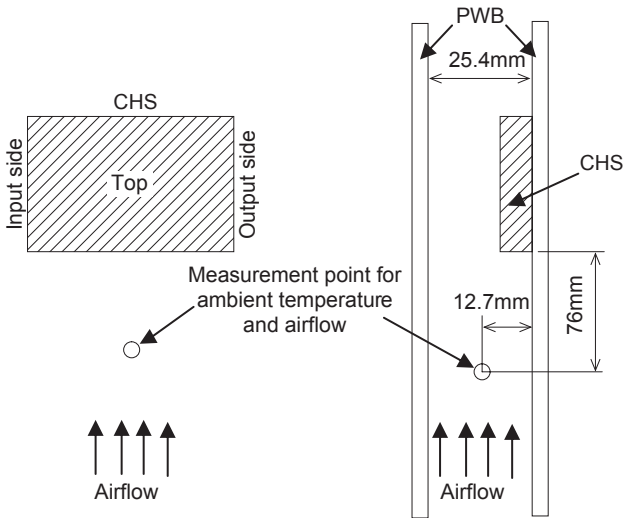

Fig.8.3 Measuring method
■ Shown the thermal curve with measuring as shown in Fig.8.3. Verify final design by actual temperature measurement. Use the temperature measurement location as shown in Fig.8.2.1 to Fig.8.2.7 at 120°C or less.